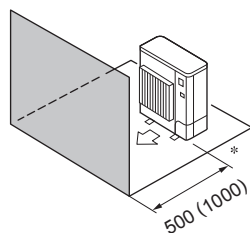

Fig. 1-8
- ④ Obstacles at front only (Fig. 1-8)